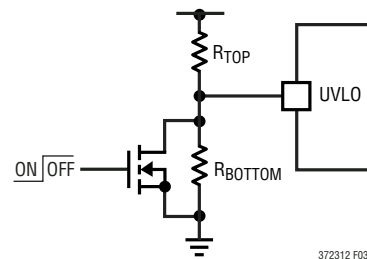

Figure 3. System UVLO Setup
UVLO. The amount of DC feed hysteresis provided by this current is: 10µA • R_{TOP}, (Figure 3). The system UVLO threshold is: 5V • {(R_{TOP} + R_{BOTTOM})/R_{BOTTOM}}. If the voltage applied to UVLO is present and greater than 5V prior to the V_{CC} UVLO circuitry activation, then the internal UVLO logic will prevent output switching until the following three conditions are met: (1) V_{CC} UVLO is enabled, (2) V_{REF} is in regulation and (3) UVLO pin is greater than 5V.
UVLO can also be used to enable and disable the power converter. An open drain transistor connected to UVLO as shown in Figure 3 provides this capability.